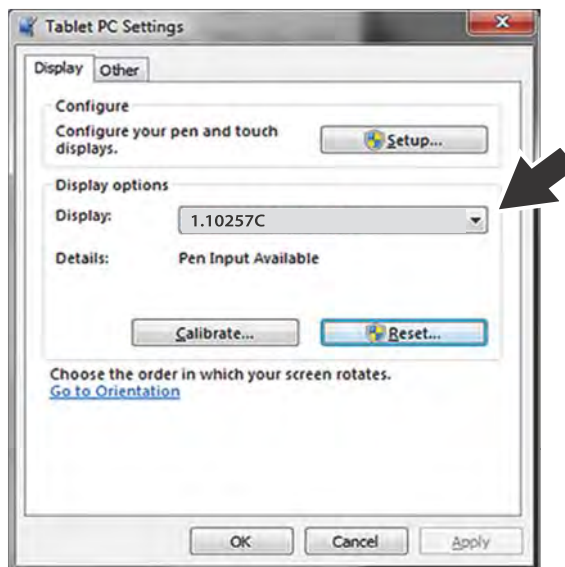

Figure 17-3 Typical - Tablet PC Settings window
The Tablet PC Setting window is displayed (Figure 17-3).
2. Select the diagnostic tool display from the dropdown list. The current default diagnostic tool display number “1.10257C” is shown in Figure 17-3 as an example.